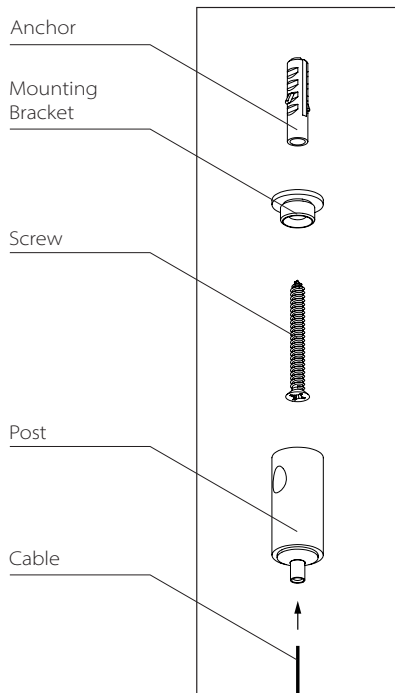

Fig. 2
3. Install the Mounting Brackets to the ceiling with Anchors and Screws, then screw the Posts onto the Mounting Brackets (Fig. 2).